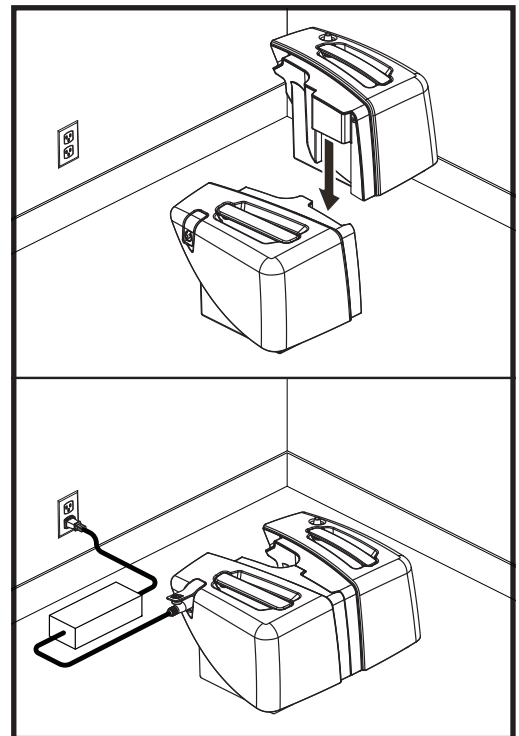

Figure 18. Battery Box Charging (Models 66 and 67)
**NOTE:** Models 66 and 67, both battery boxes can be removed from the scooter and then attached together for easy charging. See Figure 18.